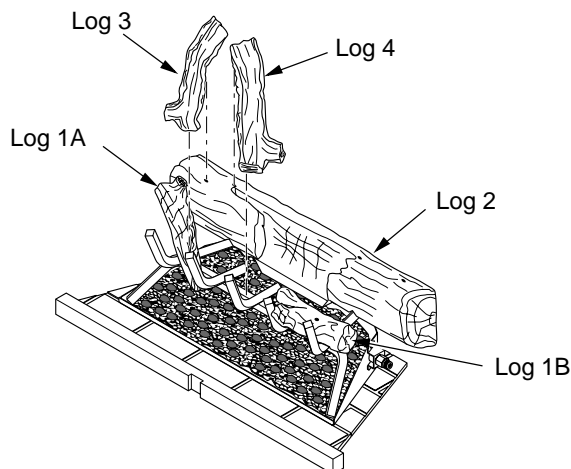
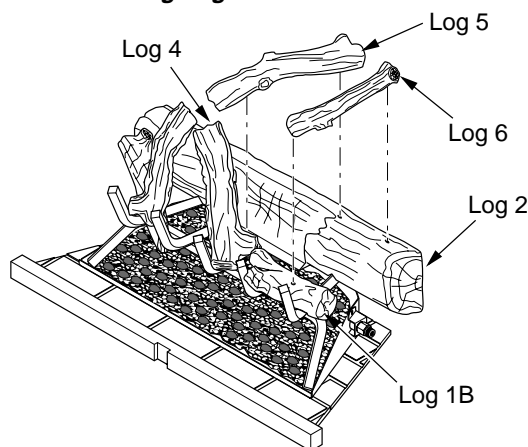
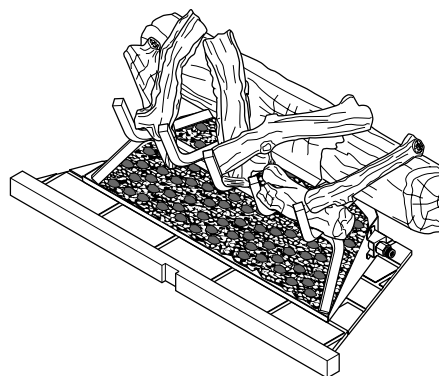

Figure 30 - Installing Logs 3 and 4
Figure 31 - Installing Logs 5 and 6
Figure 32 - Logs Installed for M42 /VM42 Models
3. Place log 3 across log 1A and log 2, aligning peg on log 3 with top left hole on log 2 (see Figure 30).
4. Align peg on log 4 with inside left hole on log 2 (see Figure 30). Log 4 will rest on grate fingers as shown in Figure 31.
5. Align peg on log 5 with the inside right hole on log 2 (see Figure 31). Rest the lower part of log 5 on the log 4 and on grate as shown in Figure 32.
6. Align peg at the top of log 6 with outside right hole on log 2. Fit the peg at the lower part of log 6 into the hole on top of log 1B (see Figures 31 and 32).